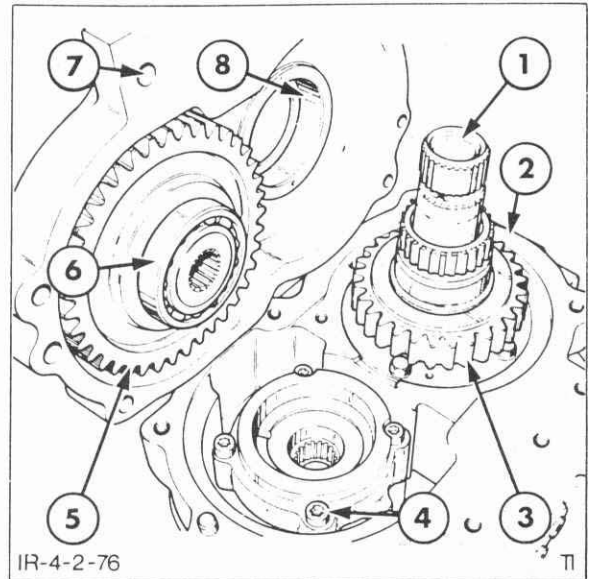

Figure 4-171
3. Slide the gear from the stator support. Remove the stator support retaining bolts then remove the support from the oil distributor housing, Figure 4-171.
5. Locate the gear onto the stator support, Figure 4-171.